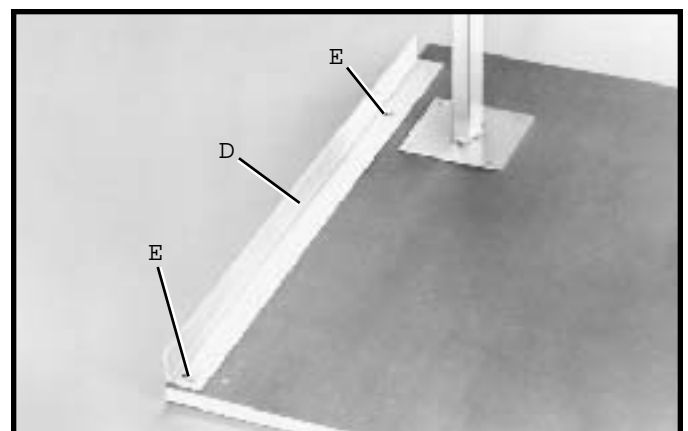

Fig. 47
3. Fasten front table support (D) Fig. 47, to the bottom of table using two 7/8" long wood screws (E) as shown. CAUTION: DO NOT OVER-TIGHTEN SCREWS (E). Over-tightening screws in particle board may cause them to strip. Do not completely tighten the two screws (E) at this time, as adjustment is necessary.